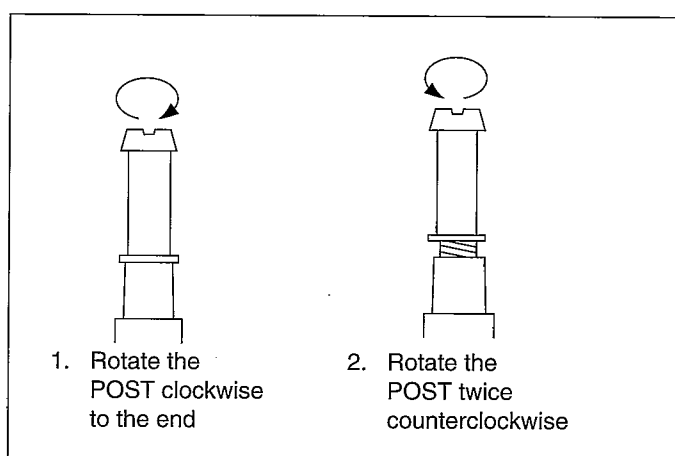

Fig. M4
- (1) Remove the Top Plate.
- (2) Turn the Loading Motor until the unloading completes.
- (3) Rotate the P2 and P3 Posts clockwise to the end. (Fig. M4)
- (4) Rotate the P2 and P3 Posts twice counterclockwise. (Fig. M4)